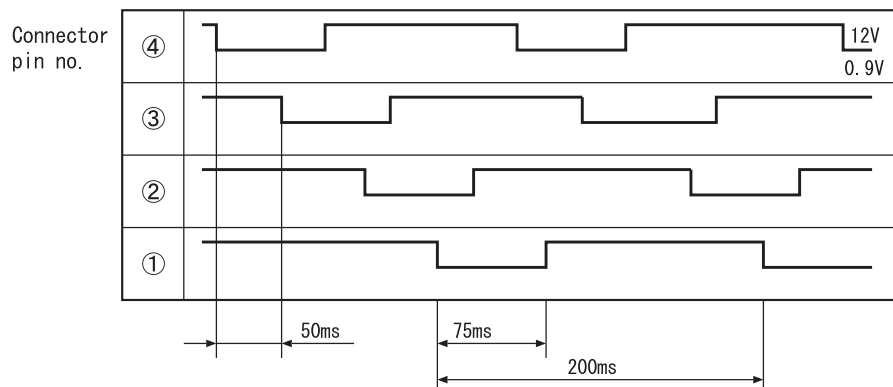

Fig. 6-2
- Relationship between power switching direction of phase and open/close direction is shown below. When power is supplied, voltages at pins ④ to ① of CN15 are about 0.9V and 12V when no power is supplied. When power is reset, initial operation is performed for 10 or 20 seconds. During initial operation, measure all voltages at pin ④ to ① of CN15 by using a multimeter. If there is any pin with voltage that has not changed from 0.9V or 12V, expansion valve or microcomputer is broken.
- Fig.6-2 shows logic waveform when expansion valve is operating.